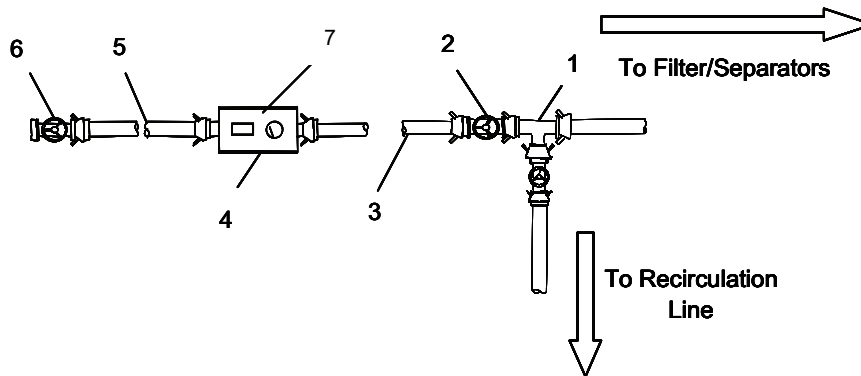

Figure 18. Installation of Distribution Points Flowmeter.
2. Connect the gate valve (Figure 18, Item 2) to tee assembly (Figure 18, Item 1).
4. Connect the section of 6 in. x 10 ft. discharge hose (Figure 18, Item 3) to gate valve (Figure 18, Item 2).
6. Position the spill containment berm (Figure 18, Item 7) on the ground adjacent to the end of the 6 in. x 10 ft. discharge hose (Figure 18, Item 3).
7. Place the flowmeter (Figure 18, Item 4) in the spill containment berm (Figure 18, Item 7).
8. Ground the flowmeter (Figure 18, Item 4).
- a. Remove the ground rod assembly from the ground rod box on the flowmeter (Figure 18, Item 4).
- c. Attach ground cable clamps to the flowmeter (Figure 18, Item 4).
9. Connect the section of 6 in. x 10 ft. discharge hose (Figure 18, Item 3) to the flowmeter (Figure 18, Item 4).
11. Connect the section of 6 in. x 10 ft. discharge hose (Figure 18, Item 5) to the flowmeter (Figure 18, Item 4).
13. Connect the male end of the 6 in. x 10 ft. discharge hose (Figure 18, Item 5) to 6 in. gate valve (Figure 18, Item 6).